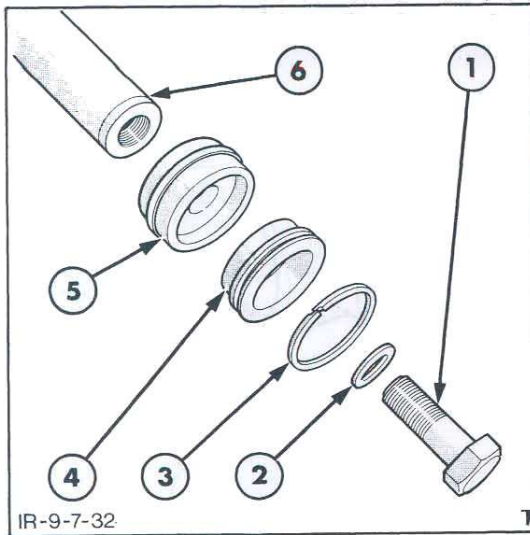

Figure 32
5. Remove the bolt, washer decelerator (555C/655C backhoe lift cylinder only) and piston assembly, Figure 32. Note that on backhoe bucket cylinders a washer is not positioned between the bolt and piston. Differences in the assembly of stabiliser cylinder pistons also exist and reference should be made to Figure 9 for component identification.